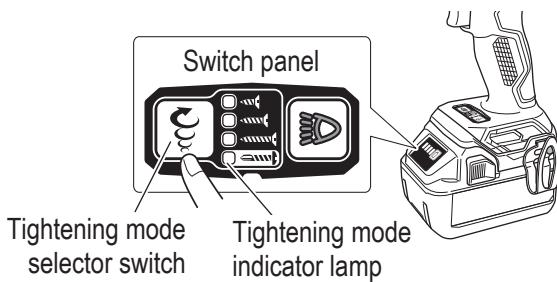

Fig. 14
#### (1) Tightening mode selector switch (Fig. 14)